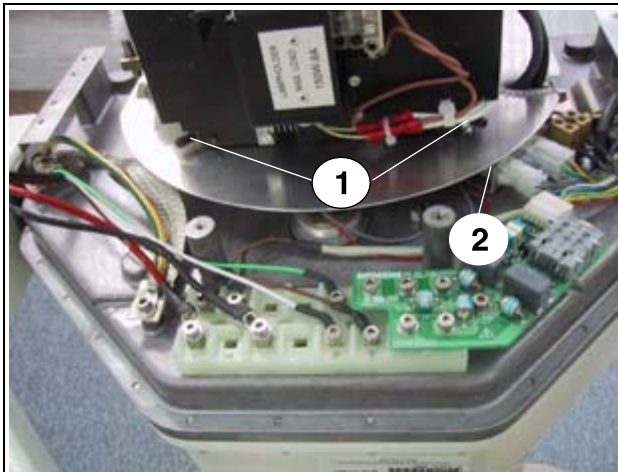

Fig. 90: Collimator attachment
- Loosen the four Allen screws of the collimator and remove the collimator. (1/Fig. 90 / p. 92).